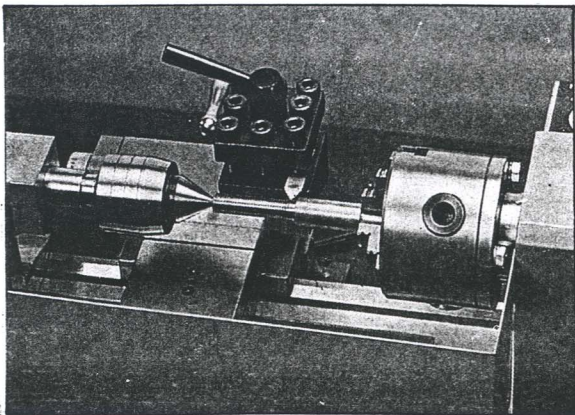

Fig. 13.
1. Use the chuck to hold the workpiece firmly (figure 13 below). Then, use the rolling center to fix the other end. If you change the rolling center to drilling chuck you start your drilling immediately.